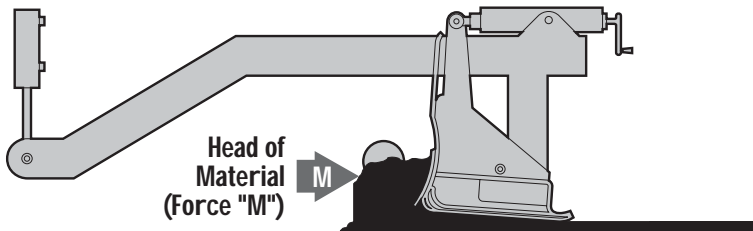

Figure 2-10. Head of Material Force (“M”)
One of the keys to smooth paving is to maintain this head of material as constant as is possible. The resistance to forward motion exerted by the head of material (M) is one of the major component of resistance to forward motion (Figure 2-10). Control of this force is a basic and necessary function of any paving operation.